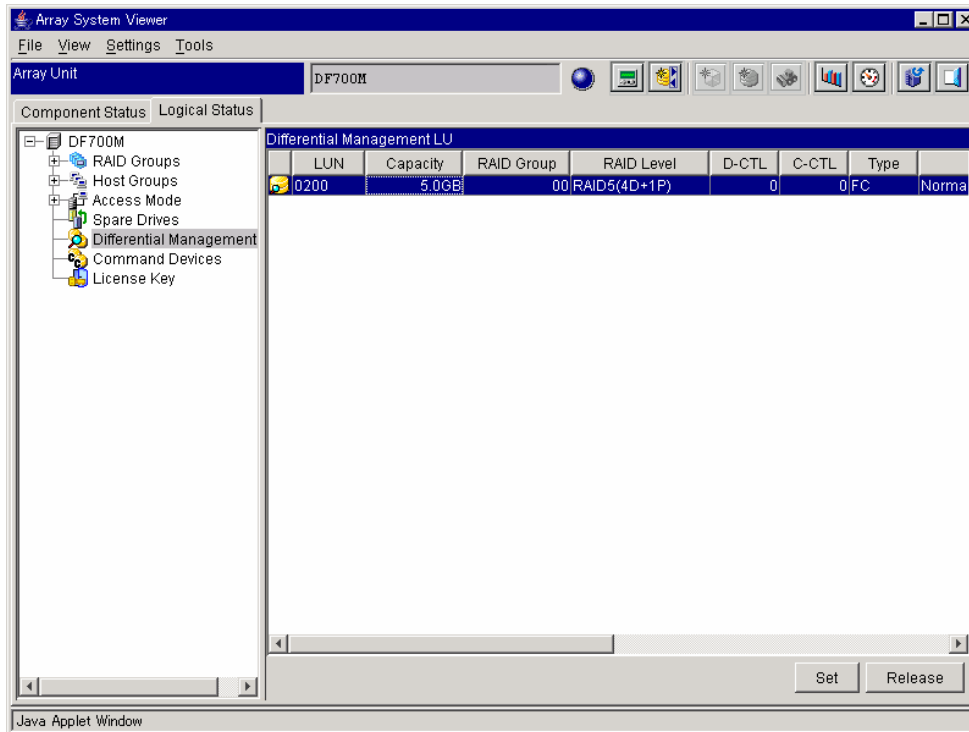

Figure 6.12 Array System Viewer - Differential Management
1. Click the **Logical Status** tab on the **Array Unit** screen. See Figure 6.12.